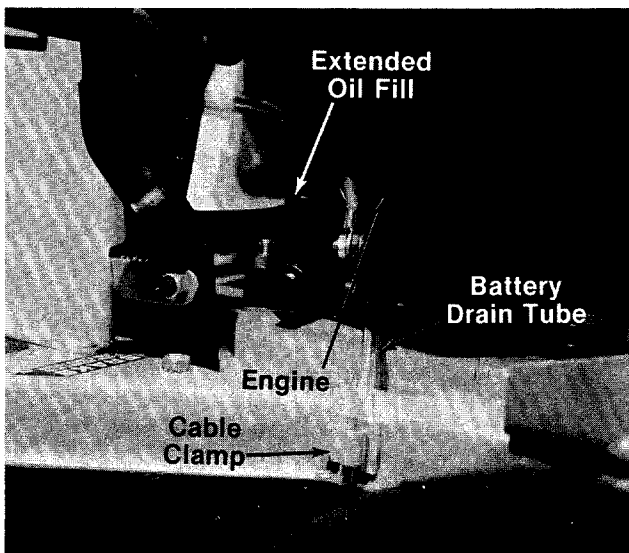

FIGURE 14.
16. Route the battery drain tube between the extended oil fill and the engine. Slip it into the plastic cable clamp as shown in figure 14.